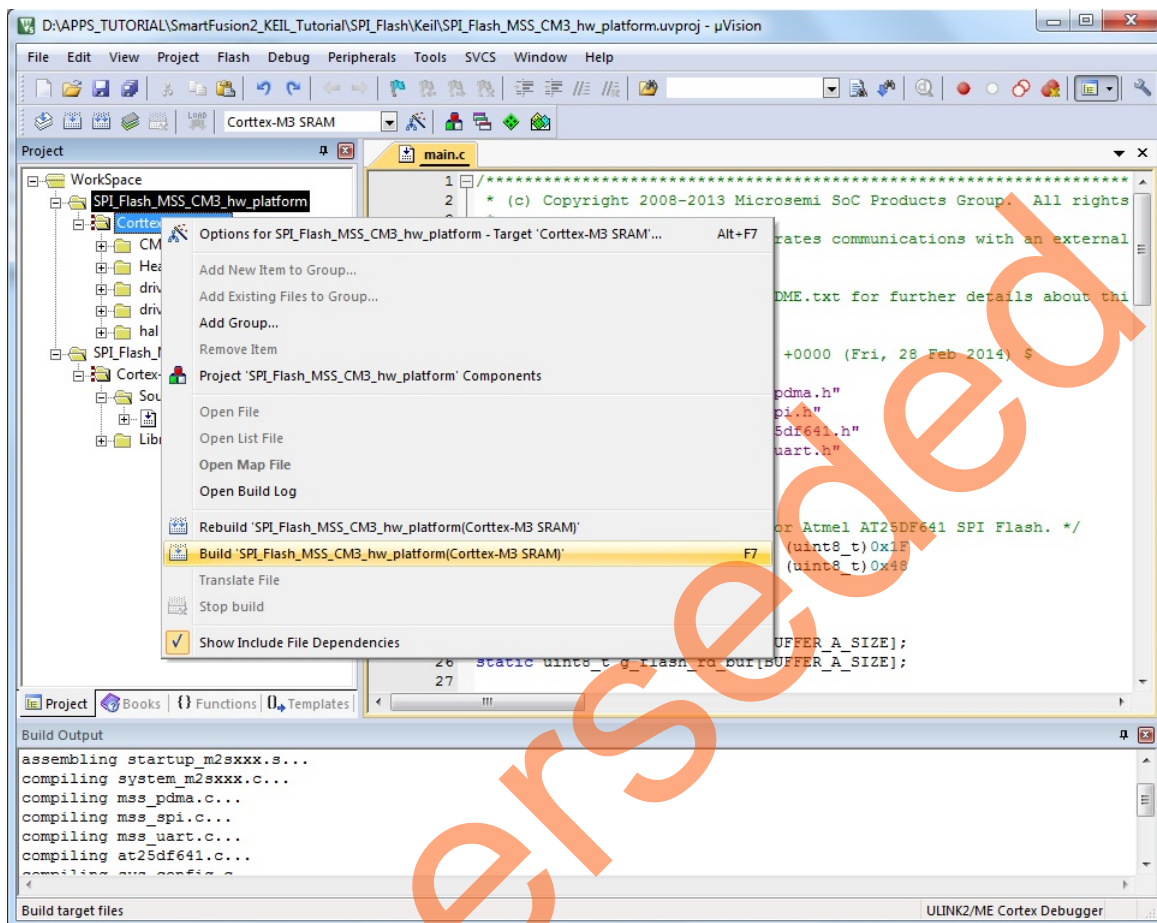

Figure 27 • Build HW Platform Window
8. Right-click **Cortex-M3_SRAM** under **SPI_Flash_MSS_Cm3_hw_platform** and select **Build SPI_Flash_MSS_Cm3_hw_platform (Cortex-M3 SRAM)** as shown in Figure 27.